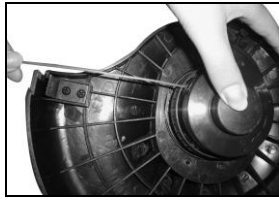

Fig.3A
1. When starting the grass trimmer for the first time, check that the nylon lines touch or pass over the wire-cutting blade. If they are not long enough, press the bump knob (A) and, at the same time, pull the nylon lines out (Fig.3A)